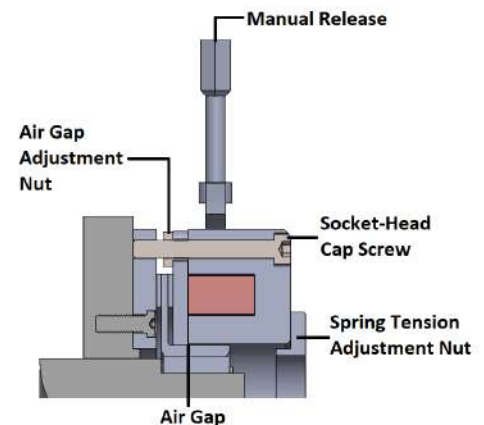

Figure 3: Manual Release diagram
- **Torque Adjustment** —The brake is supplied with a torque adjustment nut (spring tension adjustment nut, see Figure 3). Brakes are set at the minimum torque rating per the brake specification. The torque may be adjusted down as much as 50% by turning the torque adjustment nut CCW. This allows the spring tension to be relieved which causes the holding torque to lower.